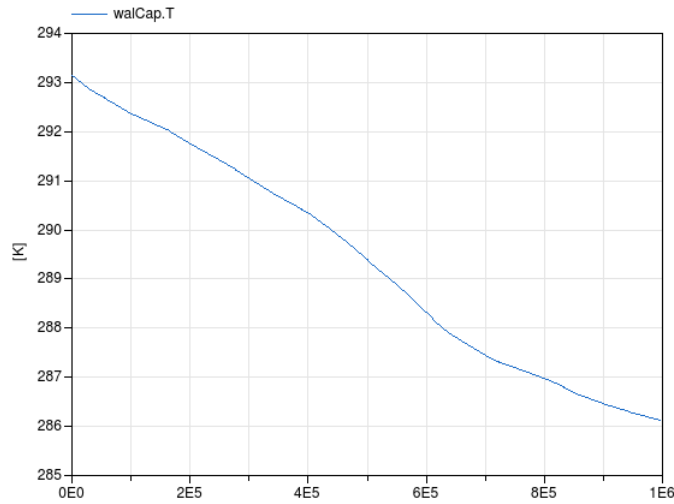

Figure 2: Wall temperature as function of time.
**Reference result** If you correctly added the model of the heat capacitor, connected it to the resistor and added the parameter values for  $C$  and  $R$ 2, then you should be able to simulate the model. To do this, go to the simulation tab (tab bar at the top), open the simulation options *Setup*, and set the model *Stop time* to  $1\text{e}6$  seconds. You can now simulate the model. You can plot individual variables values by clicking on their name in the variable browser on the left. Now plot the wall capacitor temperature value  $T$ . It should look like Figure 2.